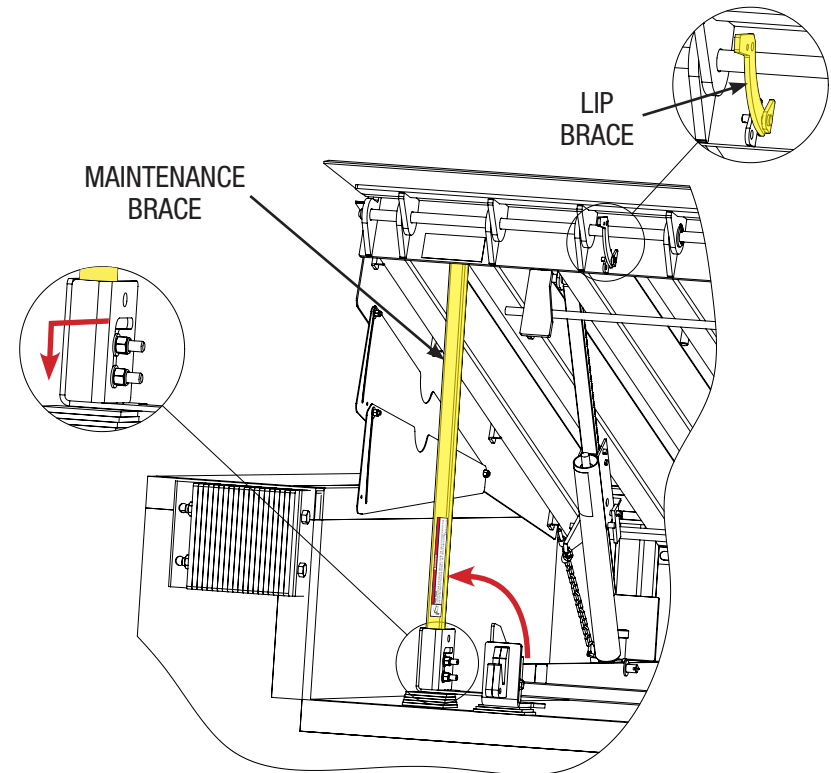

Figure 13
2. Raise the lip brace and maintenance brace to their vertical and locked positions, as shown in **Figure 13**.